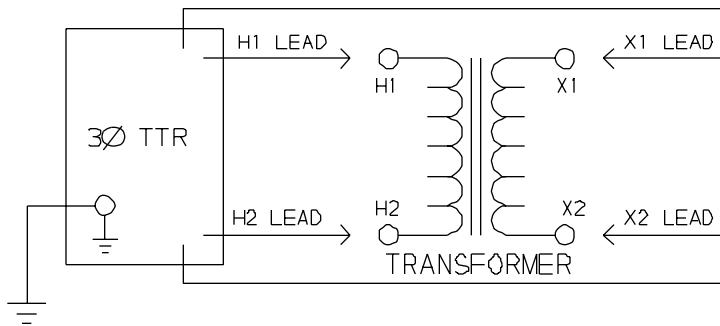
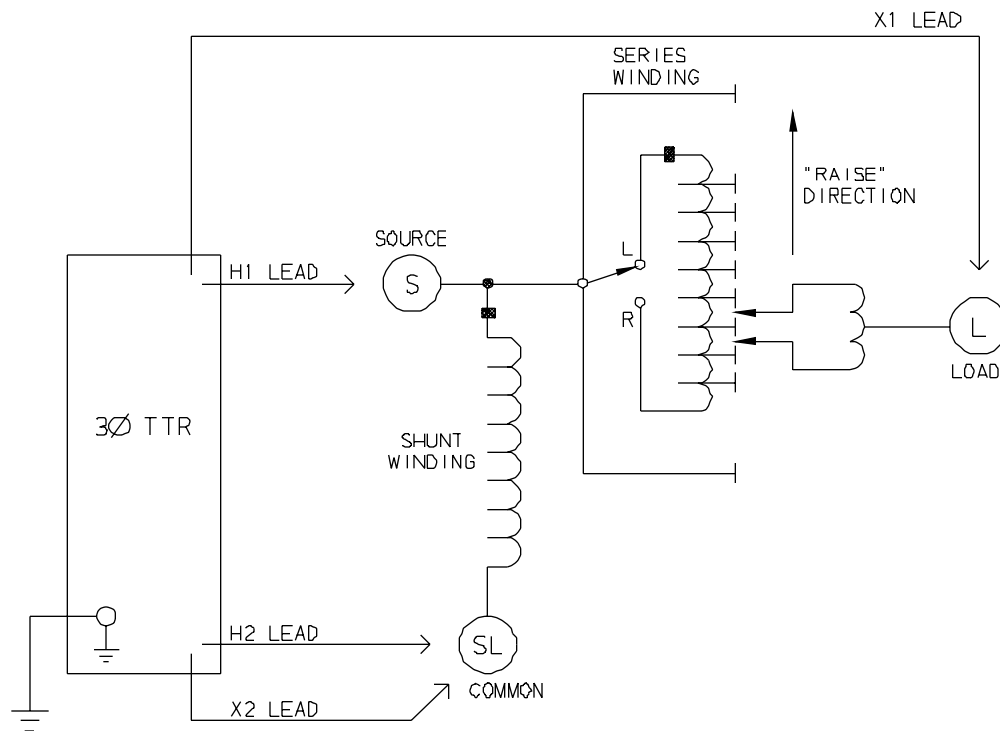

Figure 5-1. Setup for Testing Single-Phase Transformer
Figure 5-3. Setup for Testing Single-Phase, Type A (Straight Design) Step Voltage Regulator
- Figures 5-1 and 5-2 show test setups for single-phase transformers. Figures 5-3 and 5-4 show test setups for regulators.